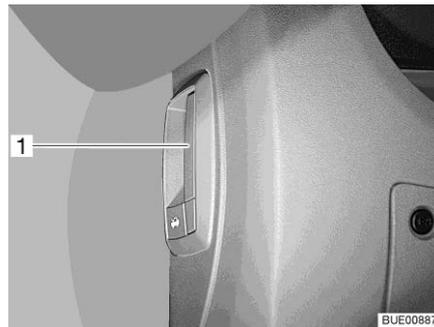

Fig. 48 Release lever for the bonnet (inside the vehicle)
- Pull the lever (Fig. 48,1) on the left under the dashboard or next to it.